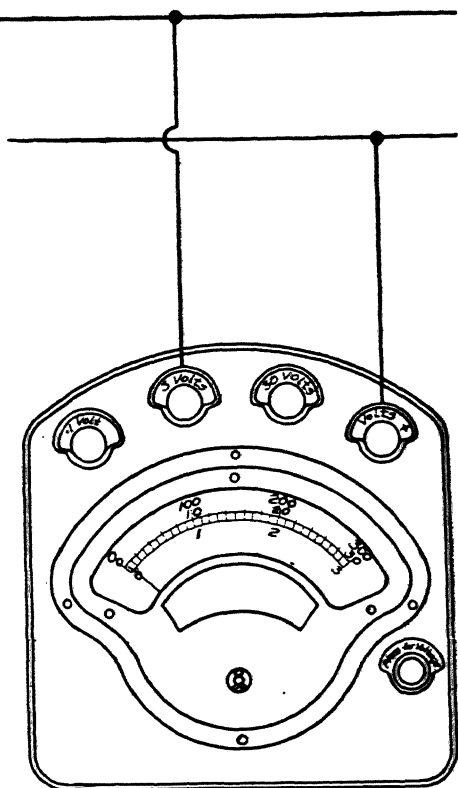

Fig. 4. Diagram Showing 3-Volt Scale Connected across a Circuit
*Voltage Tests.* When the instrument is used as a voltmeter it is necessary to select the proper scale for the circuit, and if there is any doubt it is well to start with the 30-volt scale. For testing individual cells of the storage battery the 3-volt scale would naturally be used, while for testing the entire battery, the 30-volt scale would be the proper one to apply. The proper method of connecting the voltmeter to the circuit is shown by the diagrams, Figs. 4 and 5. It is necessary to connect the positive side of the meter